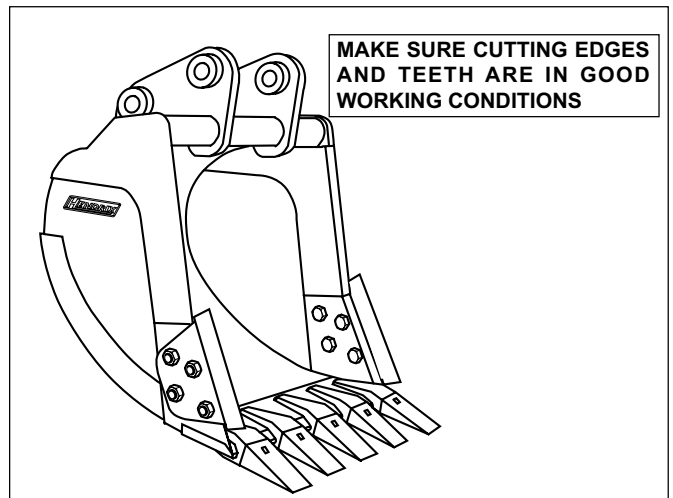

FIGURE 4.21C
1. Inspect bucket teeth and side cutters for signs of excessive wear and damage. See Figure 4.21C.
3. Inspect cutting edge for signs of excessive wear and damage. See Figure 4.21C.